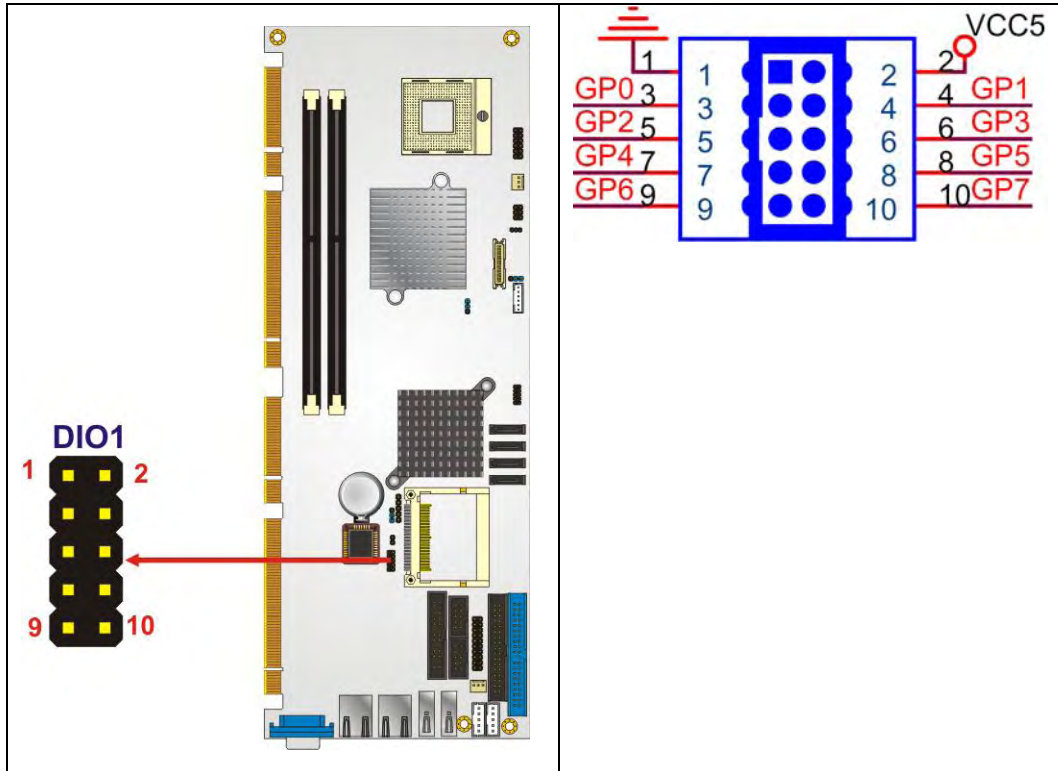

Figure 4-7: GPIO Connector Pinout Locations
- CN Location:** See **Figure 4-7**